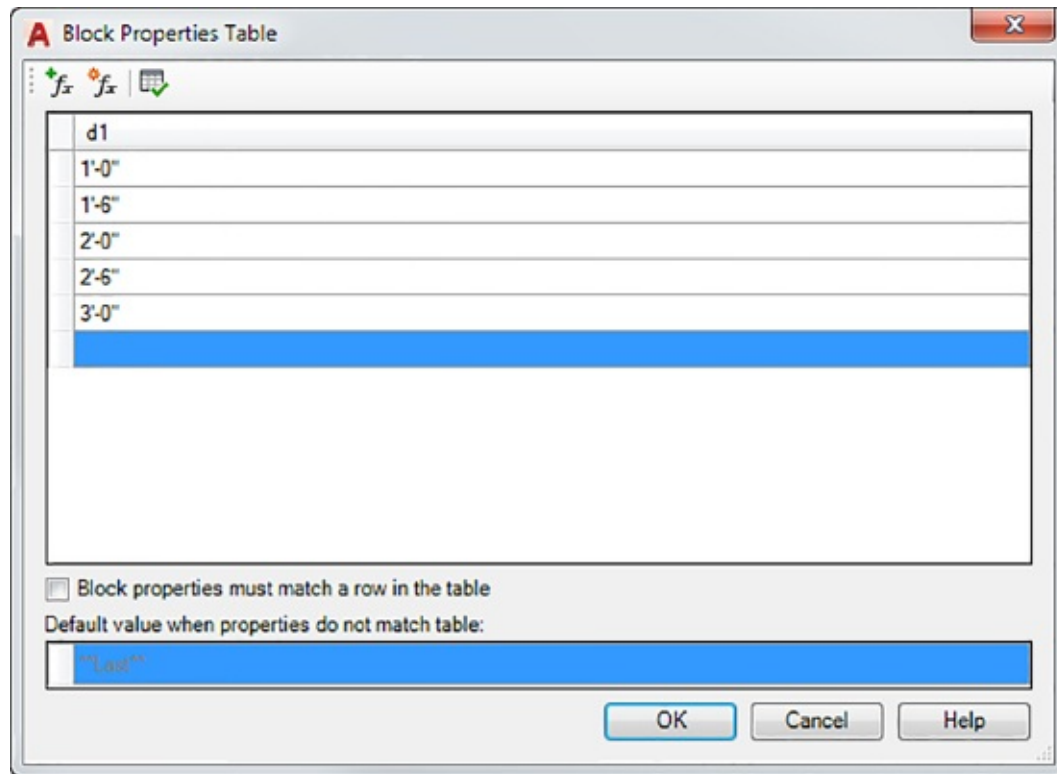

FIGURE 17.19 The Block Properties Table dialog box with the values added
9. Type **24**↵**30**↵**36**↵. The values that you enter are added to the list in feet and inches format (see Figure 17.19).